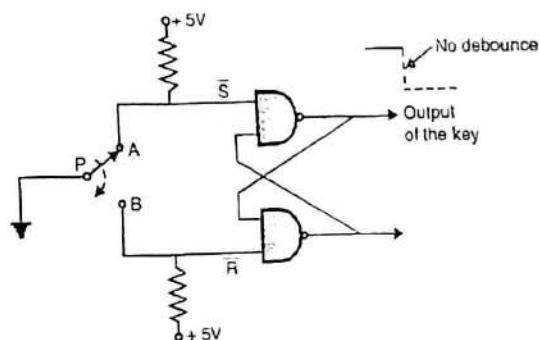

Fig. 7.1.3 : Hardware key debouncing
- It is implemented by using flip-flop or latch. Fig. 7.1.3 shows a circuit diagram of hardware key debouncing.